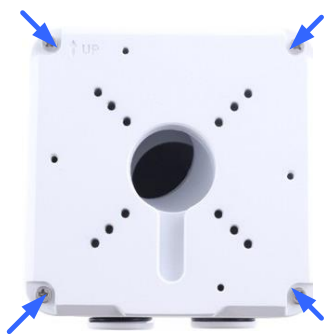

Figure 1-61
- Reattach the box cover to the power box, as shown in No. 7, *Figure 1-61*.
- Thread the Ethernet cable through the PG21 conduit connector and the power box as shown in No 8, *Figure 1-61*. Then connect the cable to the camera. To waterproof the cable, see *1.8 Waterproofing the Cable*.
- Rotate the plastic ring to secure the conduit connector to the power box. Secure in the cap, as shown in No 9, *Figure 1-61*
- Secure the box cover to the power box, as shown in No 10, *Figure 1-61*.
7. Thread the Ethernet cable through the center hole (proceed to Step 9) or through the PG21 conduit connector and the power box as shown in No 8, Figure 1-61 (proceed to Step 8).
8. Rotate the plastic ring to secure the conduit connector to the power box. Secure in the cap, as shown in No 9, Figure 1-61.